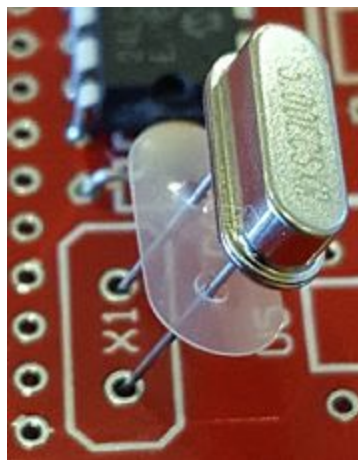

Fig6
15. Install the X1 5Mhz crystal. Ensure that you install the mylar insulator between the crystal and the circuit board. See Fig6.